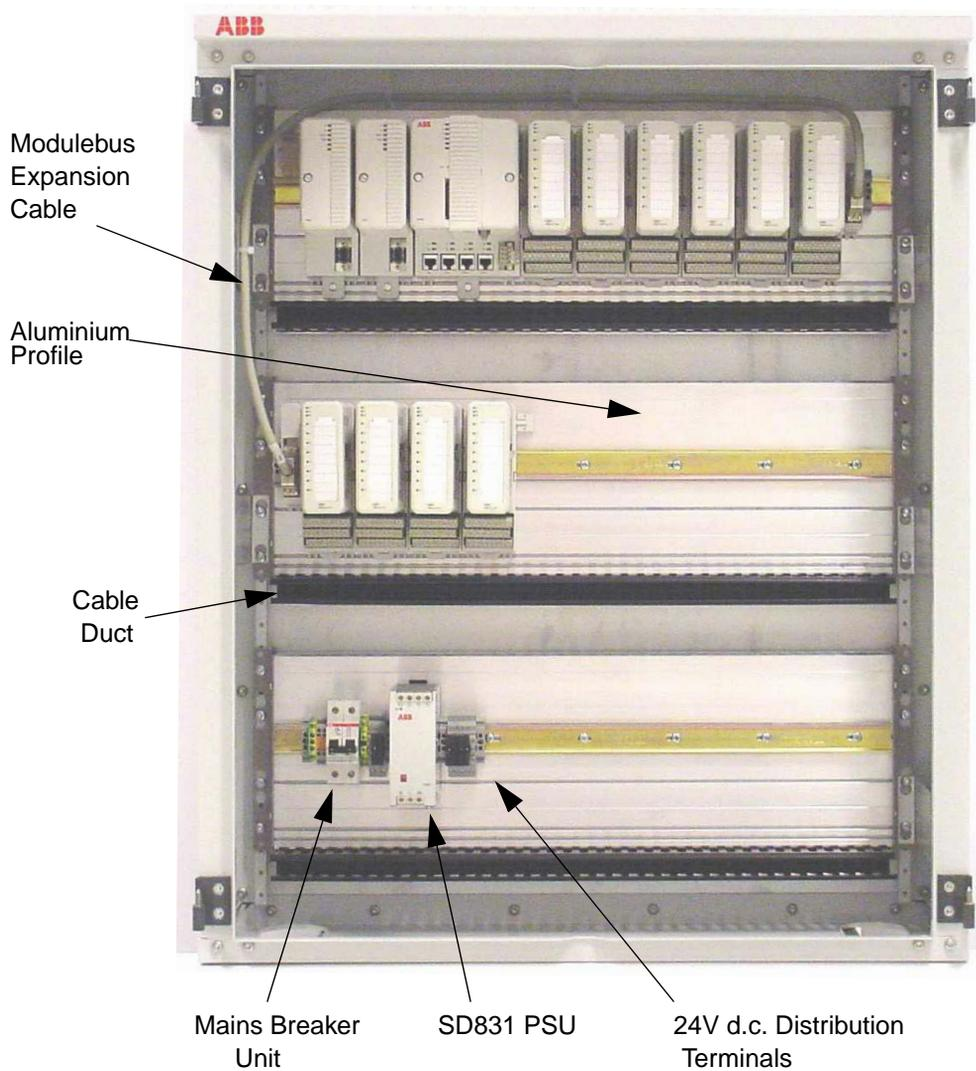

Figure 5.1: Wall Cabinet - Single Power Supply Arrangement
- Figure 5.1 on page 86, Wall Cabinet - Single Power Supply Arrangement